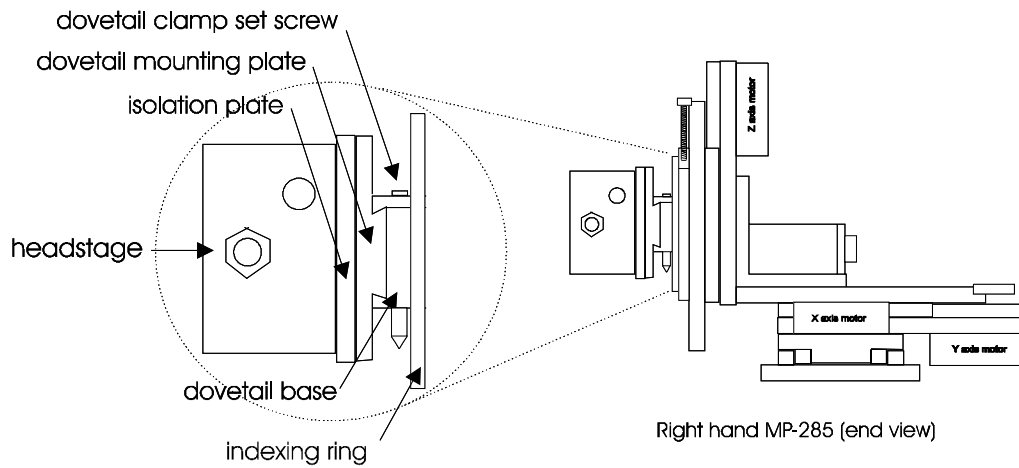

Figure 15. Detail of the headstage surface-mounting system.
3. Slide the dovetail mounting plate/headstage assembly into the dovetail base and secure it by tightening the dovetail clamp set screw (see Figure 15).